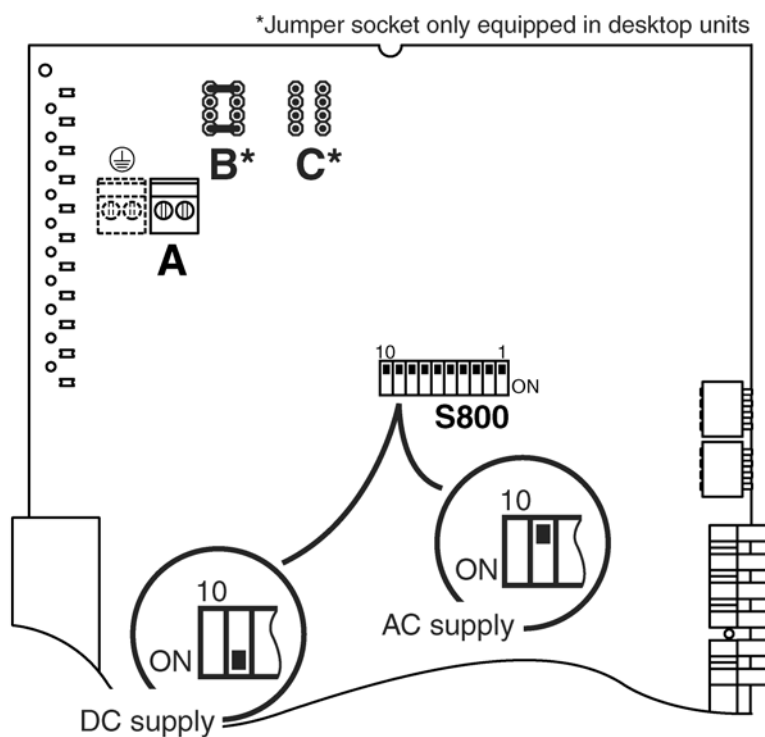

Fig. 2.138 Jumper settings: QSTU desktop unit local supply; AC or DC
6. Set the jumpers according to Chapter 2.11.2, Fig. 2.138 to battery supply (48 V_{DC}). If you are using a desktop you must set jumper S604-9 “ON”